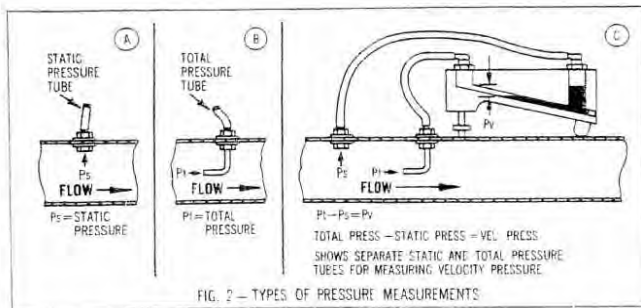

FIG. 2 - TYPES OF PRESSURE MEASUREMENTS
In Figure 2, note that separate static connections (A) and total pressure connections (B) can be connected simultaneously across a manometer (C). Since the static pressure is applied to both sides of the manometer, its effect is cancelled out and the manometer indicates only the velocity pressure.